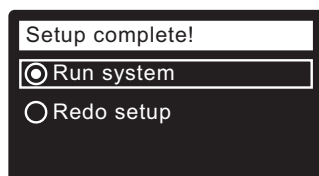

FIG. 27
24. Press the SELECT (O) button. The screen will show “Setup complete!” (See Figure 27).
25. If, at this point, you want to go back and make changes, press the DOWN (▼) button to scroll to **Redo setup**, then press the SELECT (O) button twice to repeat the “wizard” screens.
26. If no changes are desired, make sure **Run system** has a dot next to it (See Figure 27) and press the SELECT (O) button. The unit begins normal operation, described on Page 17.